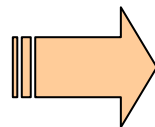

Figure 2-32 LCD Inverter
2. **Disconnect 2 cable** from the inverter board to detach inverter. (Figure 2-32)